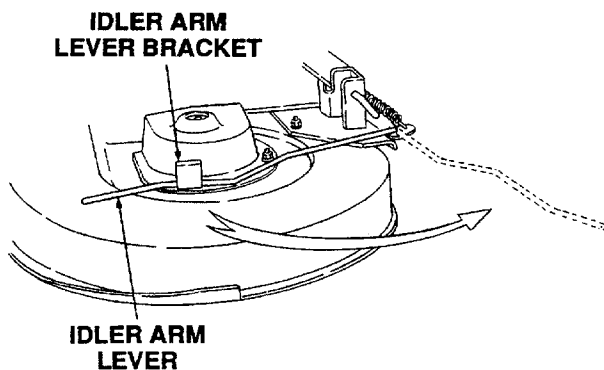

Figure 39
2. Lower the tractor implement lift handle to its lowest setting (adjust gauge wheels if necessary). Disengage the deck idler arm lever from its stop bracket and release the spring tension by rotating the lever out and rearward (Refer to Figure 39).